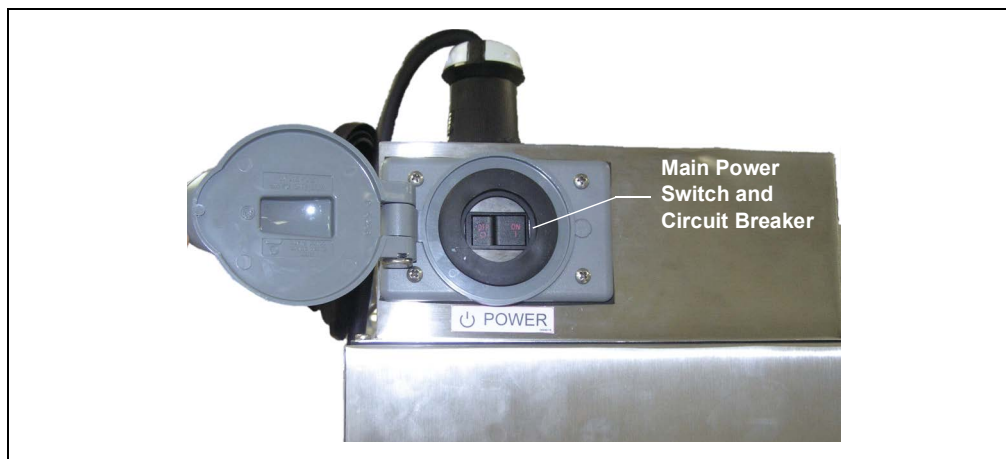

Figure 5-7. Main Power Switch on Top of the AE
- When the SS is mounted on the side of an AE or installed inside the AE, the AE power cord is the main disconnect device. In addition, the AE main power switch (see Figure 5-7) and **Emergency Off** switch (see Figure 5-2) can be used to control the power to the SS.
A power outlet strip with 10 AC outlets is installed inside the AE (see Figure 5-3), in the rear-left corner. Power cords from all components installed inside the AE or mounted on the side of the AE (including the SP, detector, pump, and air conditioner) are connected to these outlets. This allows the AE main power switch (see Figure 5-7) and **Emergency Off** switch (see Figure 5-2) to control the power to all connected components.
A power input box is located in the upper-left rear corner of the AE (see Figure 5-7). The power switch on the box is the main power switch for the AE.